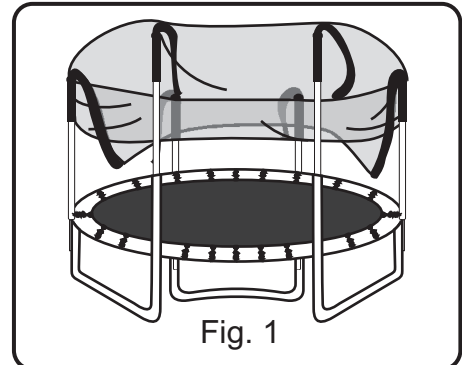

Fig. 1
Start installing the Net to the poles by inserting the beginning of the Sleeve on the Poles Until it reaches 2 ft. and continue doing the same to all poles as figure 1.
Start by running the Fiberglass Rods through the sleeves opening at the upper edge of the safety net until you reach the other side of the sleeve as figure 1.
1. With T pole caps as figure 1.